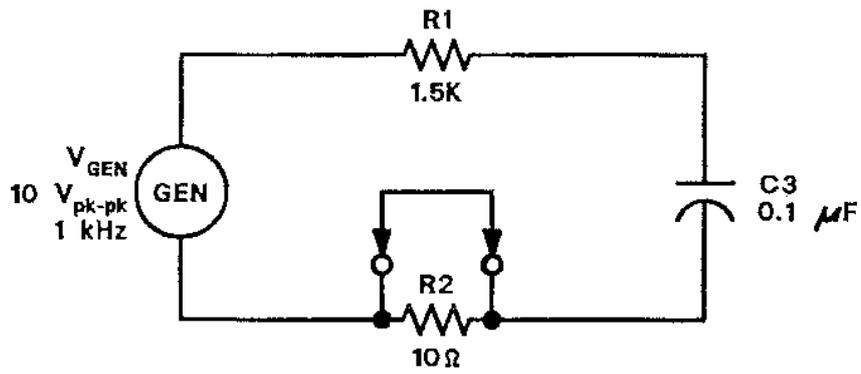

Figure 3 Capacitive reactance test circuit
2. Locate the CAPACITANCE/CAPACITIVE REACTANCE circuit block, and connect the circuit shown in Figure 3. Adjust VGEN for a 10 V_{ok}-pk, 1 kHz sine wave (remember to set the frequency and amplitude with the oscilloscope). Calculate and record the capacitive reactance of capacitor C3 ($X_{C3} = 1/2\pi fC$). Record the value in Table 2.
3. Measure and record the total circuit current (I) by using current sensing resistor R2 ($I = V_{R2}/R2$). Record the value in Table 2.